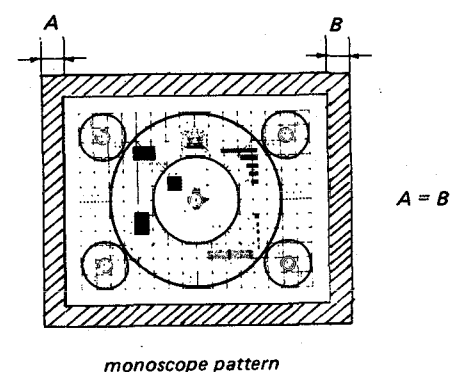

Fig. 23-4
8. Adjust RV26 on the DA board so that the outside raster portions of the picture become equal at the right and the left sides as shown in Fig 23-4.